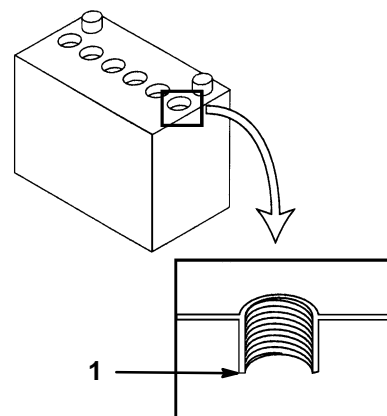

Figure 56
4. Open the cell covers to see into the cells. The electrolyte must be up to the lower part of the tube (Fig. 56). Do not allow the electrolyte to get below the plates.
2. Lift off the filler caps (Fig. 56).
3. Slowly pour distilled water into each battery cell until the level is up to the lower part of the tube (Fig. 56).